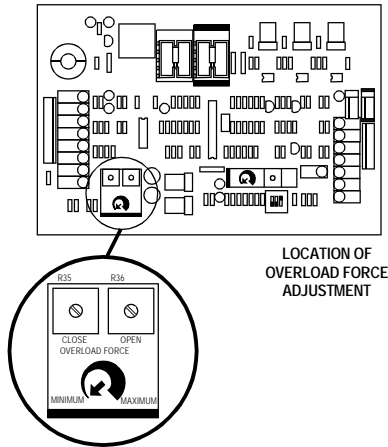

Figure 8
- ▲ 4. Adjust the open and close current sensors on the PC control board in each direction to the minimum force required to operate the gate smoothly (*See "PRIMARY OBSTRUCTION SENSING DEVICE" Fig. 8*). **DO NOT** increase current setting to makeup for rough spots in gate travel- **FIX THE GATE INSTEAD!**
This unit is supplied with a current sensing system which will stop gate when activated and then back the gate off approximately 2 inches and stop. If the gate is started again and the sensing system is activated a second time before hitting a limit switch, the gate will stop and sound a warning signal. A constant pressure control will then be needed to start the gate. This sensing system has adjustments located on printed circuit board (See Fig. 8). The force required to activate the system may be adjusted in both OPEN and CLOSE direction separately. Start at minimum force, and increase force until it is just over what is required to move the gate smoothly without any nuisance tripping. **NEVER INCREASE FORCE SETTING TO MAKE UP FOR A GATE THAT IS NOT MAINTAINED PROPERLY. THIS WILL DESENSITIZE THE OPERATION OF THE SAFETY SYSTEM.**